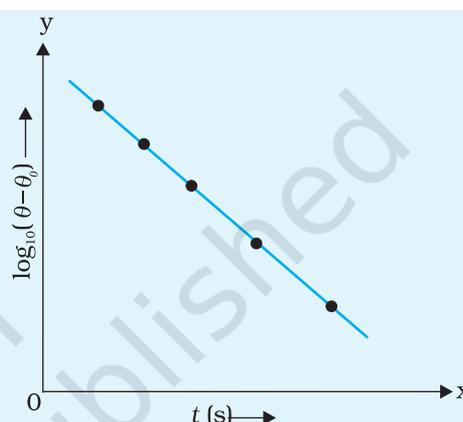

Fig.E 14.3: Graph between $\log_{10}(\theta - \theta_0)$ and t
- Also plot a graph between $\log_{10}(\theta - \theta_0)$ and time t , as shown in Fig. E 14.3 taking time t along x-axis and $\log_{10}(\theta - \theta_0)$ along y-axis. Choose suitable scales on these axes. Identify the shape of the cooling curve and the other graph.